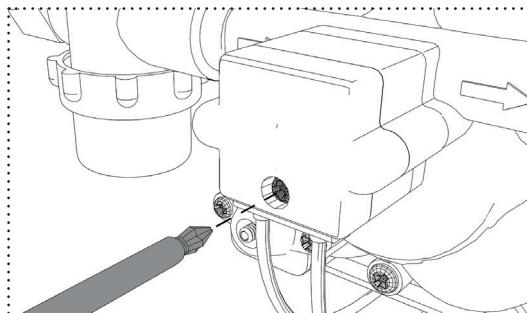

Fig. 12: Removing the pressure switch screw
**Notice:** Before you can adjust the pressure switch, you must first remove the plastic cover (Fig. 12).